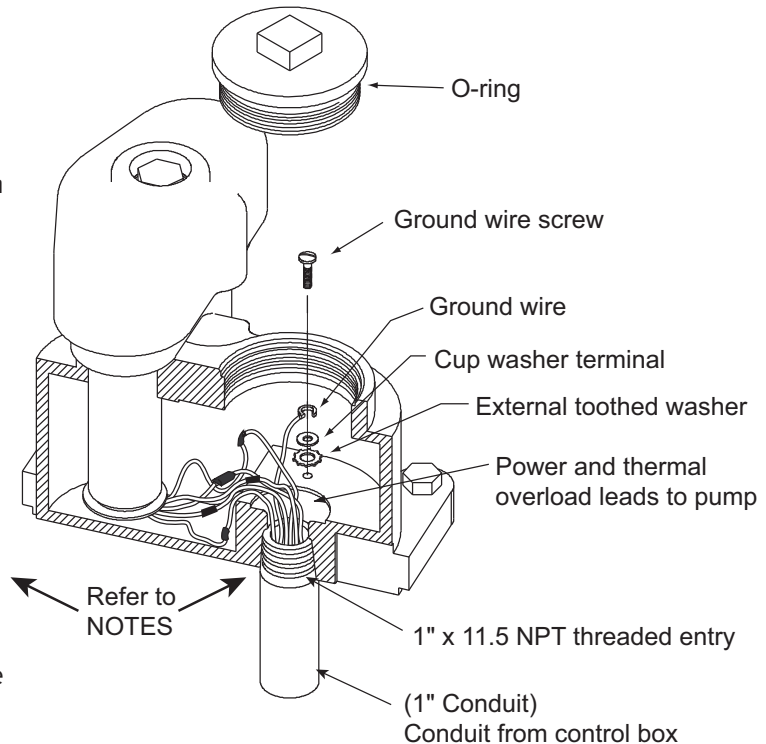

Figure 2. Conduit Box - Yoke Assembly
1. Connect the electrical conduit through the approved fittings to the conduit box. Refer to NOTES in Figure 2.